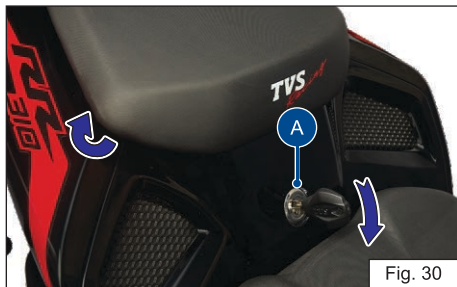

Fig. 30
This motorcycle is equipped with a lockable rider and pillion seats. The seat lock (A) is located between the rider and pillion seat as shown (ref. Fig. 30)